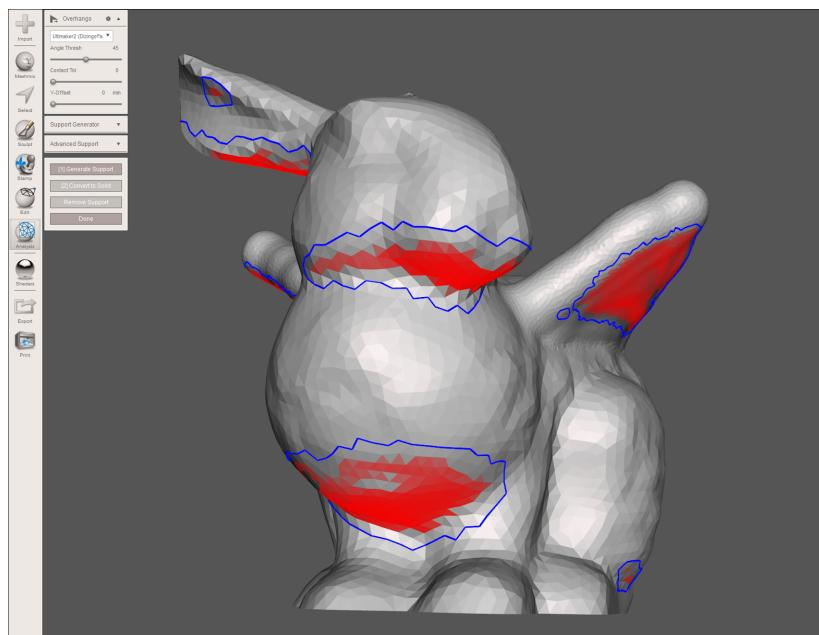

Figure 10-8. Adding support structures to the bunny
2. Change the top option from “Custom Settings” to “Ultimaker2.” You will see that certain places on your model have turned red as shown in Figure 10-8. Those are the areas that qualify for the generation of support structures, based on the settings you entered in the menu on the left. You can change these settings to what works best once you learn the capabilities of your specific 3D printer. (The Ultimaker2